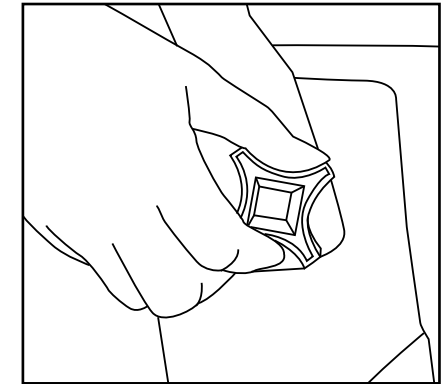

Figure 1
- Adjust handle from transport position. To adjust, while standing behind the machine lift handle to desirable operating height. Turn right knob forward while turning left knob backward to tighten handle in operating position (fig 1).